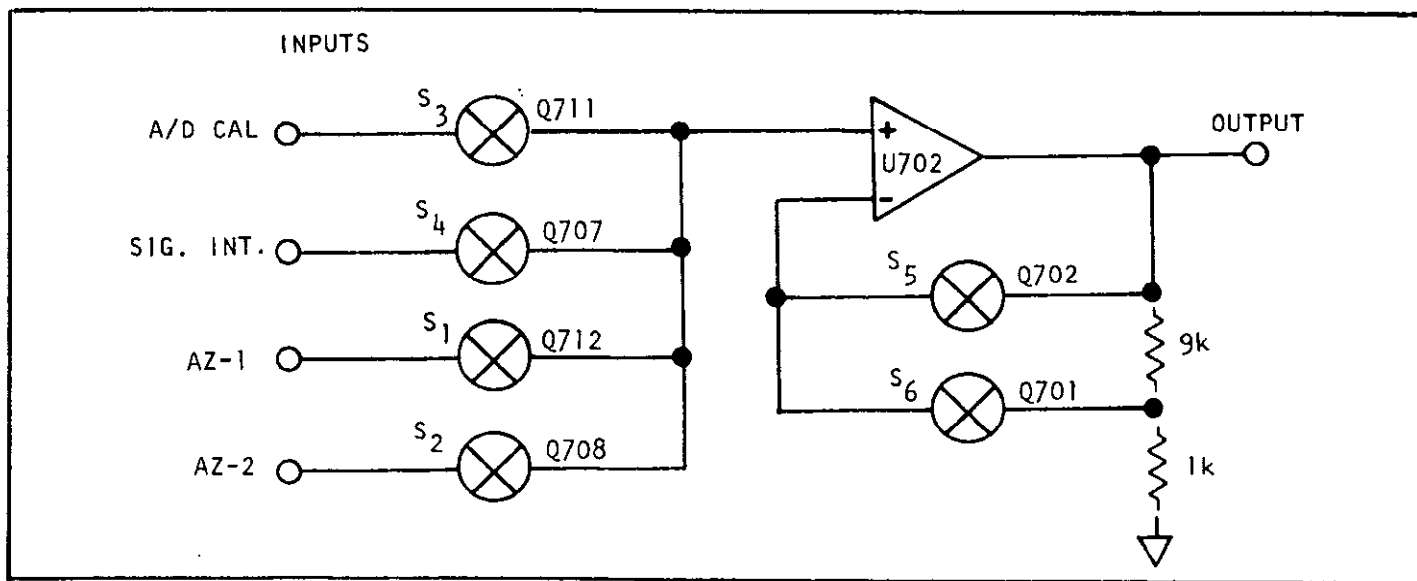

FIGURE 5-13. Simplified Schematic of A/D Buffer.
d. A/D Buffer. The buffer (shown in Simplified Schematic, Figure 5-13) performs two functions. It has four multiplexing JFET switches (S_1 through S_4) that connect the necessary inputs to the A/D converter to provide the four basic modes of operation. The driving signals (Z_1 , Z_2 , R and NS) for the multiplexing switches come from LSI circuit U901. The second function of the buffer is to provide two gains ($\times 1$ and $\times 10$) which give 3V and 0.3V ranges, respectively. Buffer gain during AZ-1 and ACAL is $\times 1$ for V, A and every other Ω range. Buffer gain during AZ-2 is the same as signal integrate, which is $\times 10$ on 300mV, 30V, L0 Ω , 300mA on 172A and all current ranges of 173A. A gain of $\times 1$ is used elsewhere. LSI chip U901 controls S_5 and S_6 (Q702 and Q701) via the G10 line.